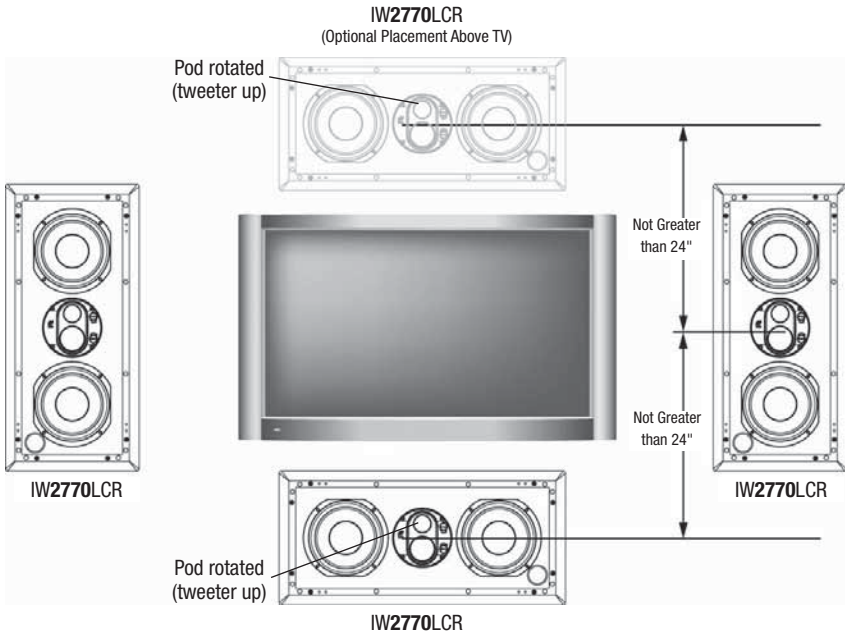

Figure 3.
As for placement height, place front left and right loudspeakers on either side of the picture source so that their tweeters are not more than 24 inches above or below the center-channel loudspeaker's tweeter (see **Figure 3** on page 7).
- *In a typical installation, place the loudspeaker horizontally, directly above or below the television or projection screen. Try to ensure that the loudspeaker is not placed too high relative to the left and right loudspeaker, as shown in **Figure 3**.*